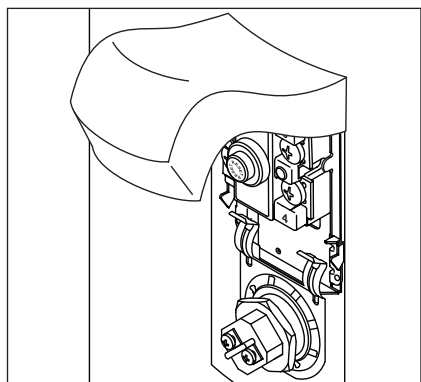

Figure 50 - Element Access Panel/ECO Compartment.
- 3 Remove the upper access panel on the water heater and carefully fold back the insulation and plastic element/ECO cover (Figure 50).